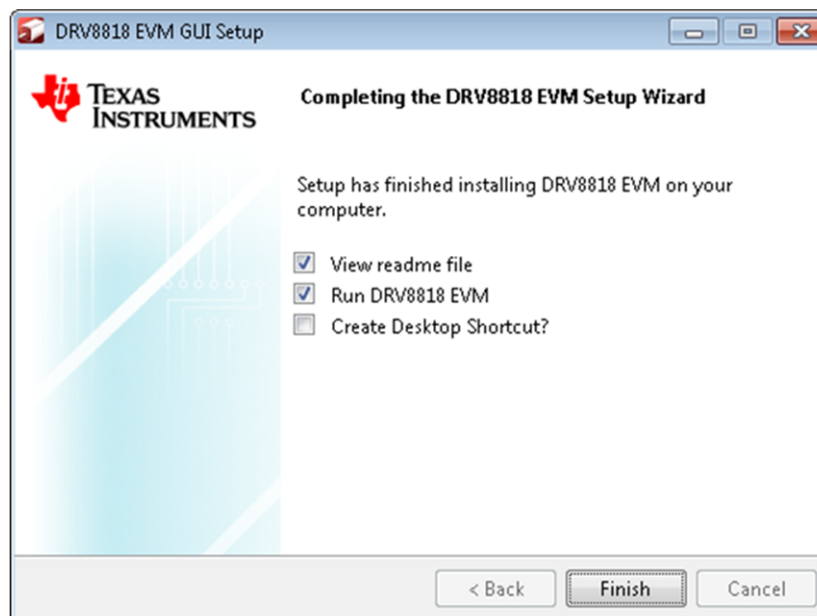

Figure 17. Installation Complete
19. Figure 17 appears denoting the completion of DRV8818 EVM GUI Installation. Click **Finish**.